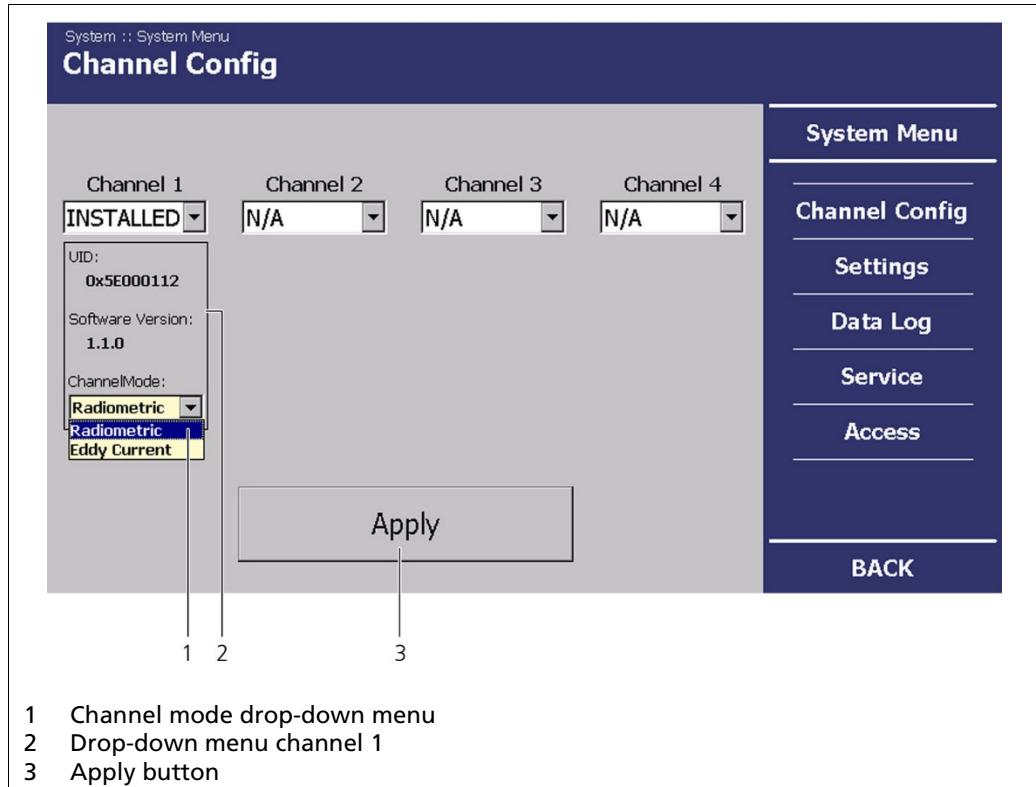

Fig.16 System menu, channel settings
- ▶ The channel mode "Eddy Current" is not admissible for the GAMMAcast detectors. In the **<Channel Setting>** menu in the drop-down menu, set the "Channel Mode" (the measurement technique) to "Radiometric" (Fig.16, item 1).
2. In the drop-down menu below "Channel XY" (Fig.16, item 2), select **<INSTALLED>**.
3. In the drop-down menu below "Channel Mode" Fig.16, item 1), select "Radiometric" as measurement method.
4. Click on **<Apply>** (Fig.16, item 3).